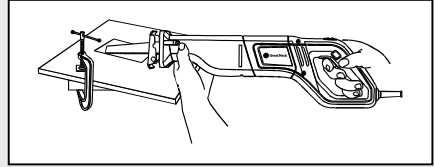

Fig. 6
2. Clamp the workpiece to a work bench or table (Fig. 6).